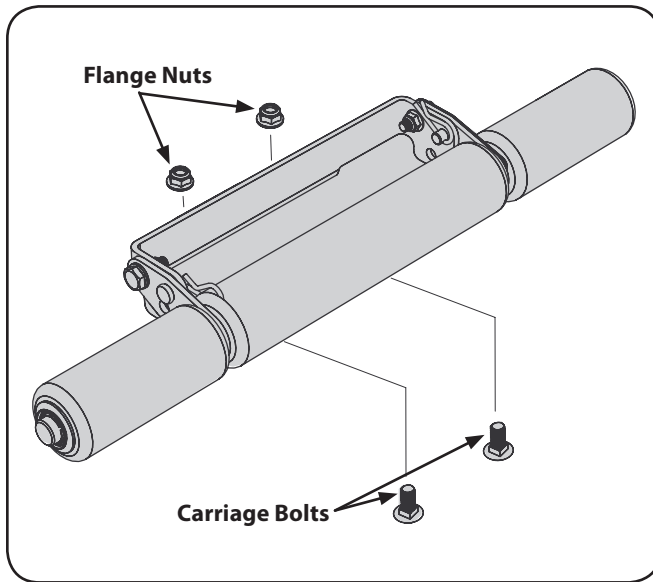

Figure 1-1
1. Remove the attached carriage bolts and flange nuts from the mounting bracket. See Fig. 1-1.